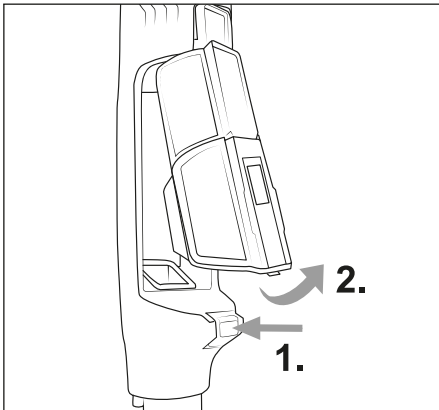

Fig. 14
- 1) To remove the dust container **7** and the HEPA filter holder **5** from the appliance, press the dust container release button **25**. First remove the dust container **7** and then the HEPA filter holder **5** from the appliance (see Fig. 14).